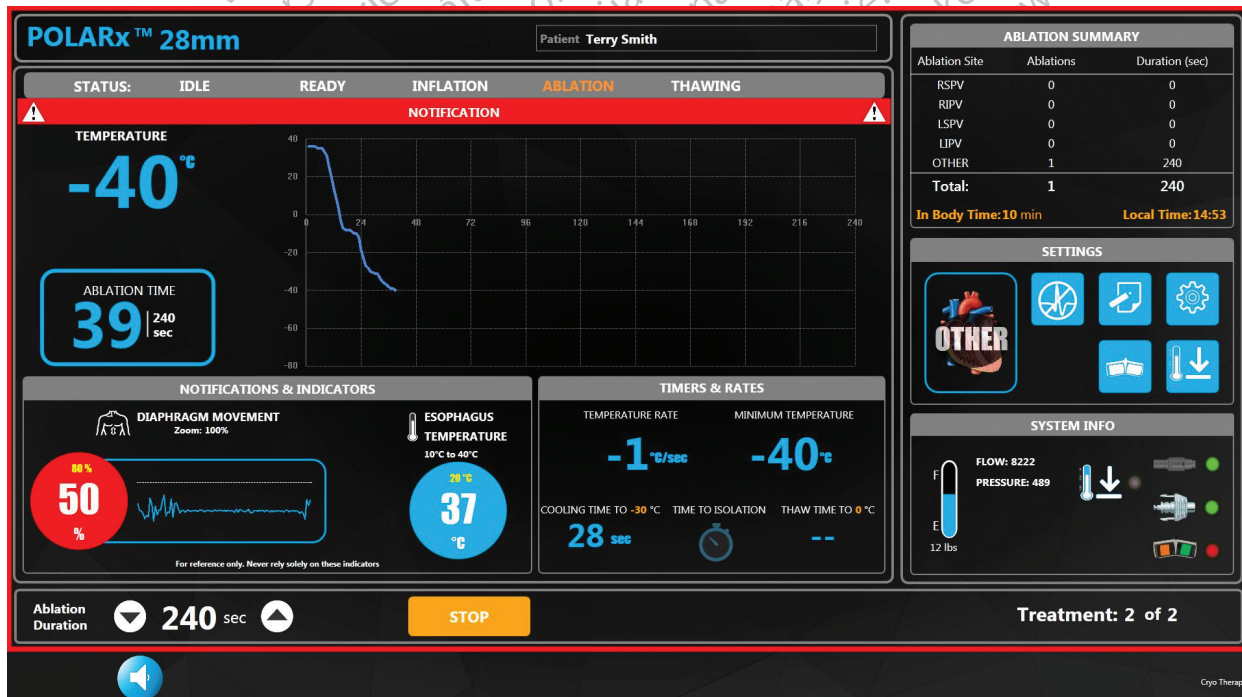

Figure 9. Diaphragm Movement Sensor Alert
- f. Select the numeric value next to the **Diaphragm Sensor Limit**. Set the Diaphragm Sensor Limit to the desired percentage using the up/down arrows. When the percentage reaches the set point chosen in this field, the Diaphragm Sensor reading on the Therapy screen will turn red and flash, a red border around the screen will flash and the Temperature graph title bar will flash red with the audible notification when the percentage reaches the set point chosen in this field (Figure 9). The alert may be displayed during the ablation phase.
- The diaphragm movement data will be plotted on the Diaphragm Movement graph and the current amplitude will be displayed as percent. The percentage is based on the measured response at the start of the ablation phase and will decrease as the patient's response to the pacing signal decreases. If the percentage reaches the setpoint, the current diaphragm movement percentage will be displayed in a red circle and flash, a red border around the screen will flash and the Temperature graph title bar will flash red with the audible notification (Figure 9). The alert is present during the ablation phase. If the DMS reading is less than the DMS sensitivity setting, the DMS graph will indicate "No Pacing Detected". The DMS graph has a white line that adjusts to the average DMS value seen.